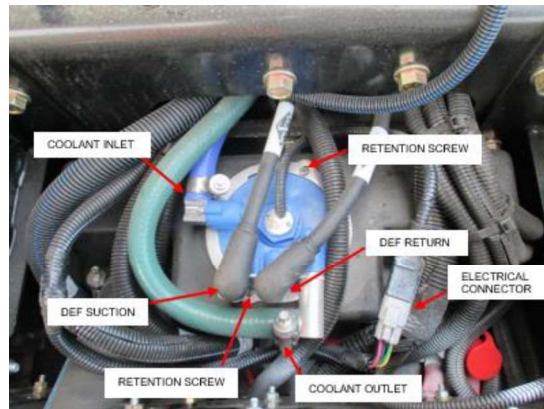

Figure 6.1
10. Reinstall coolant hoses, DEF hoses, and electrical connector as shown in Figure 6.1. Tighten coolant hose clamps to 50-60 in-lbs (5.65 to 6.78 Nm).